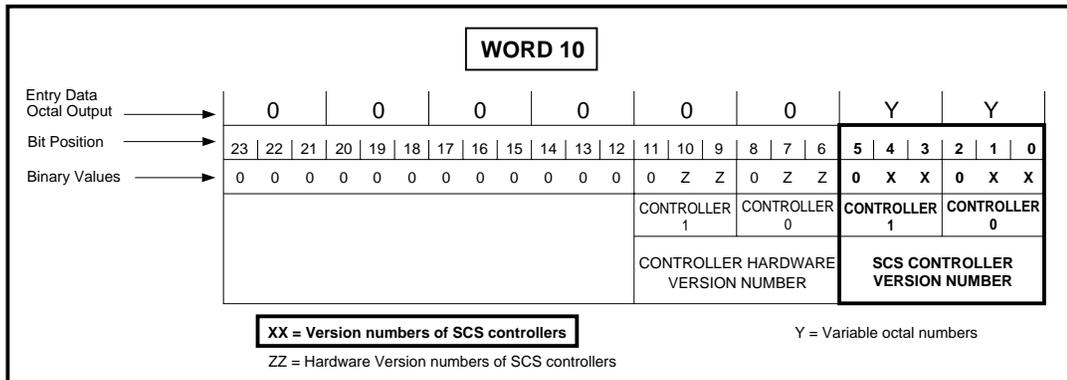

Figure 1. Word 10 in SCS Unit Type Translator Used to Determine Version Numbers of Controllers
11. At OLDDATA, enter the **existing** 2-digit octal number represented by bits 0 through 5 of octal word 10 in the SCS Unit Type Translator. (See Figure 1.)